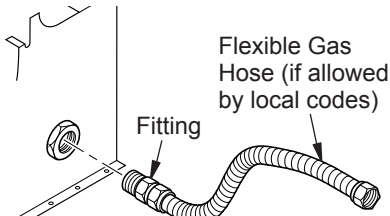

Figure 11 - Attaching Flexible Gas Hose to Heater
1. Connect approved flexible gas hose to gas control fitting in heater (see *Figure 11, Page 13*).